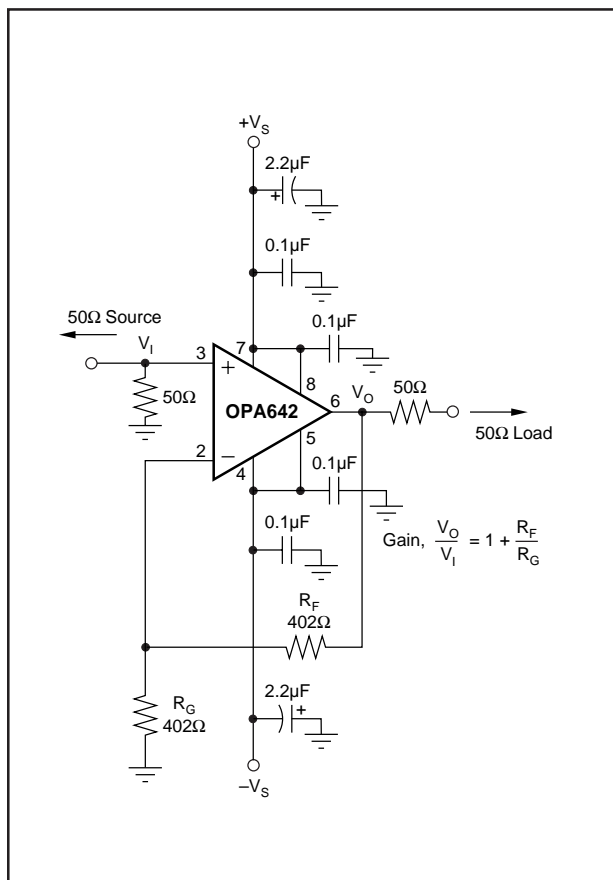
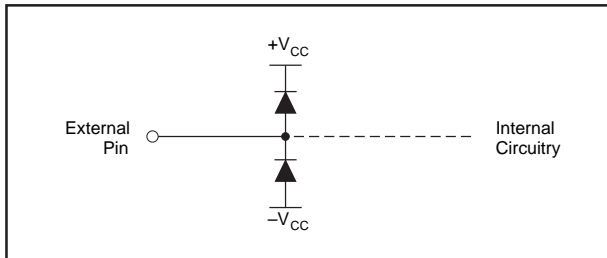

FIGURE 1. Gain of +2, High Frequency Application and Characterization Circuit [P or U Package].
FIGURE 9. Internal ESD Protection.
The OPA642's combination of speed and dynamic range is easily achieved in a wide variety of application circuits, providing that simple principles of good design practice are observed. For example, good power supply decoupling, as shown in Figure 1, is essential to achieve the lowest possible harmonic distortion and smooth frequency response. Proper PC board layout and careful component selection will maximize the performance of the OPA642 in all applications, as discussed in the remaining sections of this data sheet.
Figure 1 shows the gain of +2 configuration used as the basis for most of the Typical Performance Curves. Most of the curves were characterized using signal sources with 50Ω driving impedance, and with measurement equipment presenting 50Ω shunt load impedance. In Figure 1, the 50Ω shunt resistor at the V_I terminal matches the source impedance of the test generator, while the 50Ω series resistor at the V_O terminal provides a matching resistor for the measurement equipment load. Generally, data sheet specifications refer to the voltage swing at the output pin (V_O in Figure 1). The 100Ω load from the series and shunt matching resistances, combined with the 804Ω total feedback network load, presents the OPA642 with an effective load of approximately 90Ω.
To achieve the lowest possible distortion in the 8-pin SO-8 or DIP package, the addition of 0.1μF decoupling capacitors on pins 5 and 8 is required. These are shown in Figure 1. Although pins 5 and 8 are internally connected to pins 4 and 7 respectively (the standard supply pins for 8-pin op amps), the additional capacitors help to decouple the package lead inductances and improve second harmonic suppression at 5MHz by approximately 4dB. The much shorter bond wires and supply leads of the SOT23-5 package give the best distortion performance while requiring only two power supply connections.
is typically set up for a voltage gain of +2, compensating for the 6dB attenuation of the voltage divider formed by the series and shunt 75Ω resistors at either end of the cable. The circuit of Figure 1 applies to this requirement if all references to 50Ω resistors are replaced by 75Ω values. Often, the amplifier gain is further increased to 2.2, which recovers the additional DC loss of a typical long cable run. This change would require the gain resistor (R_G) in Figure 1 to be reduced from 402Ω to 335Ω. In either case, both the gain flatness and the differential gain/phase performance of the OPA642 will provide exceptional results in video distribution applications. Differential Gain and Phase measure the change in overall small-signal gain and phase for the color subcarrier frequency (3.58MHz in NTSC systems) vs changes in the large-signal output level (which represents luminance information in a composite video signal). The OPA642, with the typical 150Ω load of a single matched video cable, shows less than 0.01%/0.01° differential gain/phase errors over the standard luminance range for a positive video (negative sync) signal. Similar performance would be observed for negative video signals. In practice, similar performance is achieved even with two video loads due to the linear high-frequency output impedance of the OPA642.
A good rule of thumb is to target the parallel combination of R_F and R_G (Figure 1) to be less than about 200Ω. The combined impedance $R_F \parallel R_G$ interacts with the inverting input capacitance, placing an additional pole in the feedback network and thus a zero in the forward response. Assuming a 2pF total parasitic on the inverting node, holding $R_F \parallel R_G < 200\Omega$ will keep this pole above 400MHz. By itself, this constraint implies that the feedback resistor R_F can increase to several kΩ at high gains. This is acceptable as long as the pole formed by R_F and any parasitic capacitance appearing in parallel is kept out of the frequency range of interest.
configuration this is sum of $R_F + R_G$, while in the inverting configuration this is just R_F (Figure 1). Increasing output voltage swing increases harmonic distortion directly. A 6dB increase in output swing will generally increase the second harmonic 12dB and the third harmonic 18dB. Increasing the signal gain will also increase the second harmonic distortion. Again a 6dB increase in gain will increase the second and third harmonic by 6dB even with a constant output power and frequency. And finally, the distortion increases as the fundamental frequency increases due to the rolloff in the loop gain with frequency. Conversely, the distortion will improve going to lower frequencies down to the dominant open-loop pole at approximately 3kHz. Starting from the -90dBc second harmonic for 2Vp-p into 500Ω, $G = +2$ distortion at 1MHz (from the Typical Performance Curves), the second harmonic distortion at 20kHz should be approximately $-90\text{dB} - 20\log(1\text{MHz}/20\text{kHz}) = -124\text{dBc}$.
Evaluating these two equations for the OPA642 circuit shown in Figure 1 will give a total output spot noise voltage of $6.7\text{nV}/\sqrt{\text{Hz}}$ and an equivalent input spot noise voltage of $3.35\text{nV}/\sqrt{\text{Hz}}$.
Narrowband communications systems are more commonly concerned with the noise figure for the amplifier. The total input referred voltage noise expression (Eq. 2), may be used to calculate the noise figure. Equation 3 shows this noise figure expression using the E_N of Eq. 2 for the non-inverting configuration where the input terminating resistor R_T has been set to match the source impedance (as shown in Figure 1).
Evaluating Equation 3 for the circuit of Figure 1 gives a Noise Figure = 17.6dB. Input transformer coupling can be used to reduce this noise figure. A broadband pulse transformer can provide both a noiseless voltage gain and a more optimum source impedance to minimize the noise figure. Figure 7 shows an example built from the circuit of Figure 1, in which the transformer turns ratio has been set to the
The OPA642 can provide excellent DC signal accuracy due to its high open-loop gain, high common-mode rejection, high power supply rejection, and low input offset voltage and bias current offset errors. The high grade (B) version of any package type provides less than 1mV input offset voltage. To take full advantage of this low input offset voltage, a careful attention to input bias current cancellation is also required. The high speed input stage for the OPA642 has a relatively high input bias current (25μA typ into the pins) but with a very close match between the two input currents—typically 100nA input offset current. The total output offset voltage may be considerably reduced by matching the source impedances looking out of the two inputs. For example, one way to add bias current cancellation to the circuit of Figure 1 would be to insert a 175Ω series resistor into the non-inverting input from the 50Ω terminating resistor. When the 50Ω source resistor is DC coupled, this will increase the source impedance for the non-inverting input bias current to 200Ω. Since this is now equal to the impedance looking out of the inverting input ($R_F \parallel R_G$), the circuit will cancel the gains for the bias currents to the output leaving only the offset current times the feedback resistor as a residual DC error term at the output. Using a 402Ω feedback resistor, this output error will now be less than $3\mu\text{A} \cdot 402\Omega = 1.2\text{mV}$.
As a worst case example, compute the maximum T_J using an OPA642N (SOT23-5 package) in the circuit of Figure 1 operating at the maximum specified ambient temperature of +85°C. $P_D = 10V \cdot 26mA + 5^2 / (4 \cdot (100\Omega \parallel 804\Omega)) = 330mW$. Maximum $T_J = +85^\circ C + 0.33W \cdot 150^\circ C/W = 135^\circ C$.
The OPA642 is built using a very high speed complementary bipolar process. The internal junction breakdown voltages are relatively low due to these very small geometry devices. These breakdowns are reflected in the Absolute Maximum Rating table. All device pins are protected with internal ESD protection diodes to the power supplies as shown in Figure 9.
High input overdrive signals can also cause significant differential voltage between the + and - inputs. Where this voltage can exceed the maximum rated voltage of $\pm 1.2V$, external Schottky protection diodes should be added across the two inputs. Again, the capacitance added by these diodes can degrade the noise and AC performance and should be used only where necessary. Figure 9 shows a fully featured input protection circuit for the OPA642. This is the circuit of Figure 1 with additional limiting resistors into the inputs and Schottky clamp diodes across the inputs. These resistor values have been selected to limit the degradation in noise and frequency response, achieve DC bias current cancellation, and limit the current that will flow under overdrive conditions.